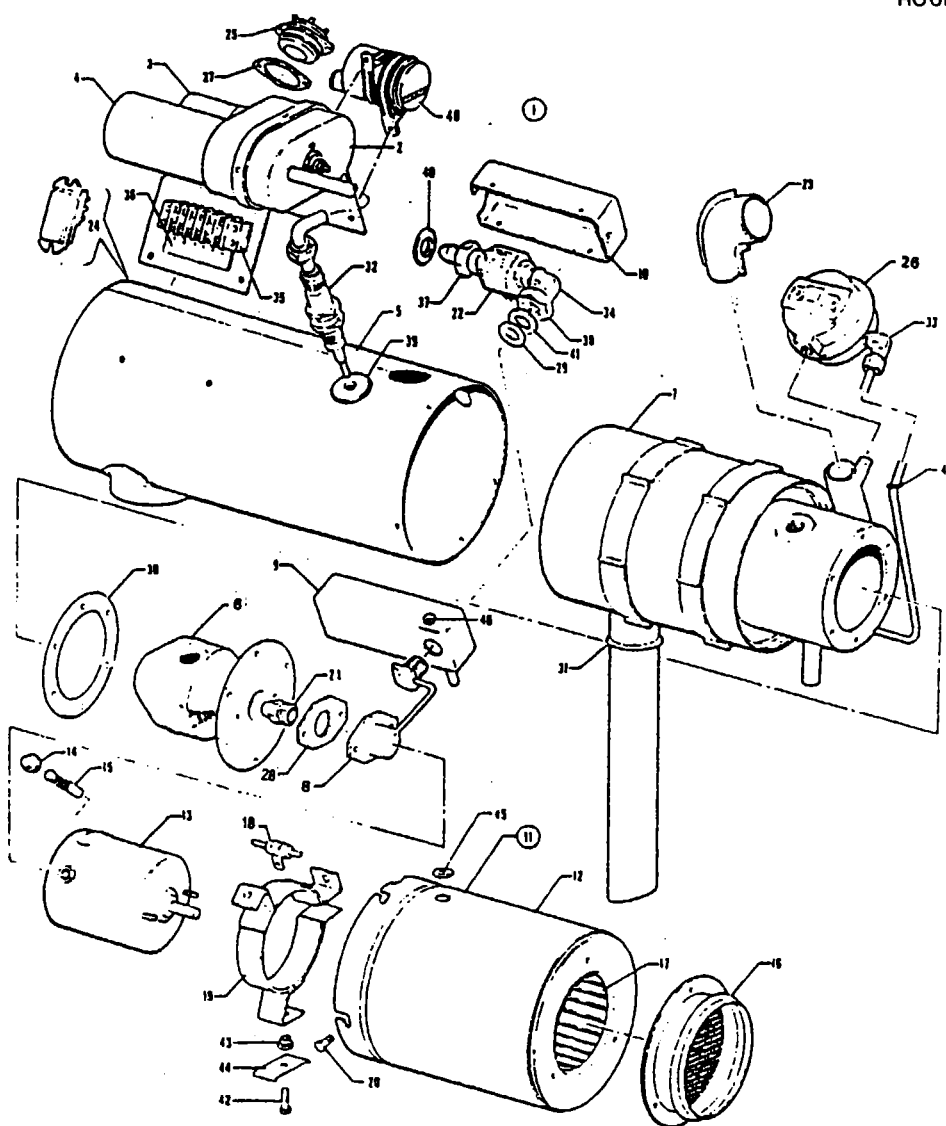

Figure 13-19. Exploded View of Heater Assembly (45,000 BTU)
13-60. CLEANING. (Refer to Figure 13-19.)
13-61. CLEANING AND INSPECTING THE COMBUSTION TUBE ASSEMBLY (45,000 BTU). (Refer to Figure 13-19.)
13-62. INSPECTION OF REMAINING COMPONENTS (45,000 BTU). (Refer to Figure 13-19.)
- f. Inspect the ignition assembly (2, Figure 13-19) for dented case, loose or damaged primary terminal insulator and broken or obviously damaged high voltage lead. Give particular attention to the condition of the spring connector at the end of the lead. If the spring is burned off, visibly eroded or carbon tracked, the ignition assembly should be replaced.
13-67. REASSEMBLY (45,000 BTU). (Refer to Figure 13-19.)
r. Center the fuel fitting in jacket opening. Position the fuel fitting shroud gasket (29), washer (41) and shroud (9); then install the nut (38) finger tight. Insert a 3/4 inch open-end wrench inside the jacket and hold the fuel-tube fitting while tightening the nut (38) with a 3/4 inch deep socket. Install the fuel solenoid elbow (34) and solenoid (22). Avoid twisting or damaging lead. Install wires through grommet in lower shroud (9).
s. Rotate the combustion air switch (26) onto the threaded fitting on the combustion air tube and tighten it firmly.
t. Install grommet (47) over pressure switch line. Connect the tube to the elbow fitting (33) on the combustion air pressure switch (26).
u. Install the wiring harness and connect all wire leads to their respective terminals. (Refer to the wiring diagram, Figure 13-7.) Place the grommet (45, Figure 13-19) in position in the jacket (5); locate the ventilating air blower (11) at the end of the jacket. Thread the quick-disconnect on the motor leads through the grommet and connect it to the mating connector on the wiring harness.
v. Place the blower housing in position on the jacket assembly (5) and secure it by installing the four screws (20), if removed at disassembly. This operation is easier if the screws (20) are started into their threads and the blower housing rotated into place allowing the screws to enter the notched openings in edge of blower housing. Tighten all screws securely.
w. Install the elbow adapter (23) with the screw.
x. After heater is installed in the aircraft and the fuel line is connected, install the upper fuel shroud box (10) with the screws. Ascertain that the grommet (40) is installed.